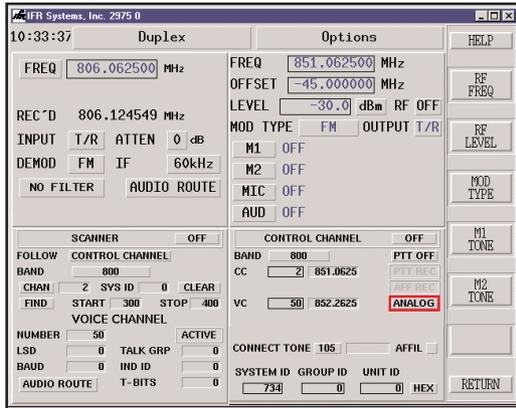

Figure 8.0 SN/SZ Repeater Simulator with Scanner Function (800 MHz band)
To set up the control channel, enable the SmartNet™/SmartZone™ repeater function as well as the scanner function. Select numbers <24> and <26> on the "Options" menu, or <SHIFT>,<MODE> and then select item 24 and 26. Figure 8.0 will show you the SmartNet™/SmartZone™ repeater simulator mode with the scanner function enabled. This particular setup will allow you to enter in the valid control and voice channel parameters, or, if they are not known, to find the control channel in a particular area by monitoring it off the air and then use the information retrieved off of any system found.